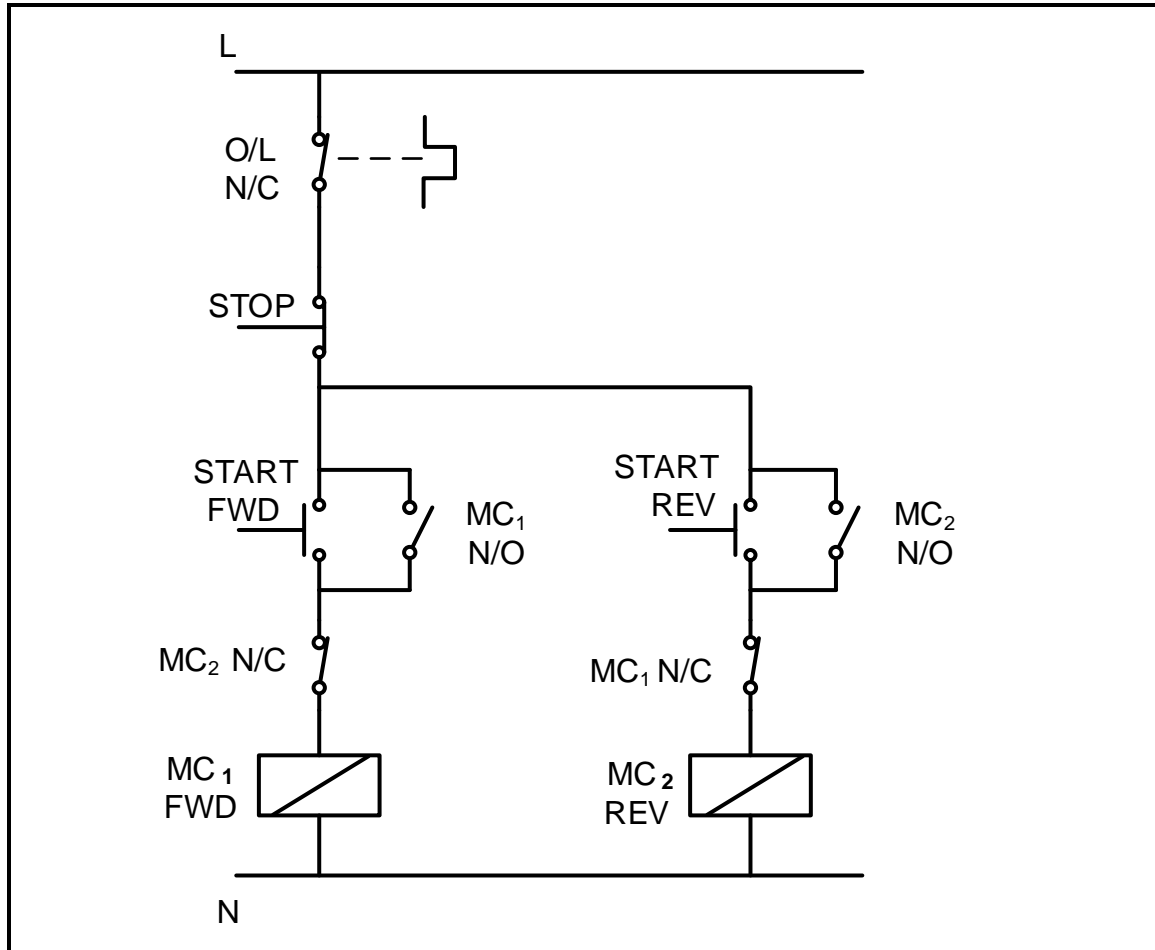

FIGURE 7.5: CONTROL CIRCUIT OF A FORWARD-REVERSE STARTER
7.5 FIGURE 7.5 below shows a control circuit of a forward-reverse starter. Draw the PLC ladder logic program that will execute the same function in a PLC system.